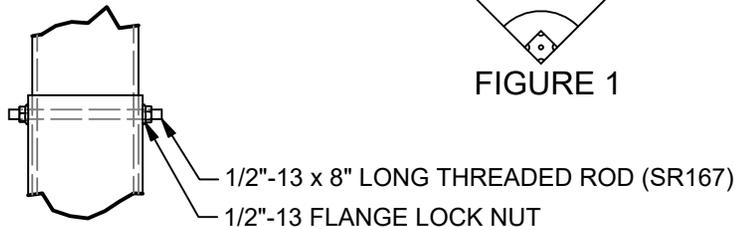

FIGURE 3
- 8) Install the 1/2" thread rod and flange nuts on to the sleeve (figure 3). (Provided w/ Jaypro Foul Pole: BBFP-30)